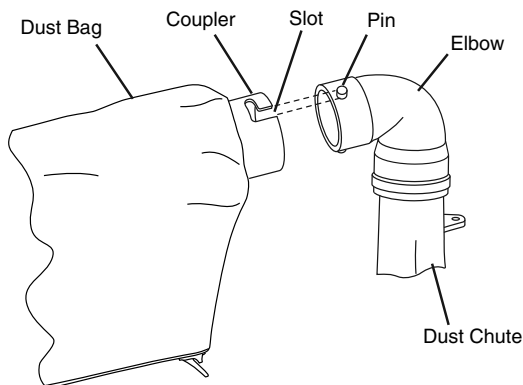

Figure 6
**Attaching (and Removing) Dust Bag** – The elbow has pins on the top and bottom of the exit port which will engage the coupler end of the dust bag assembly. To attach the dust bag, align the coupler's slots with the elbow's pins, then push and twist it clockwise. To remove the dust bag, twist the coupler counterclockwise, then pull off – always leave the elbow on the dust chute (see Figure 6).